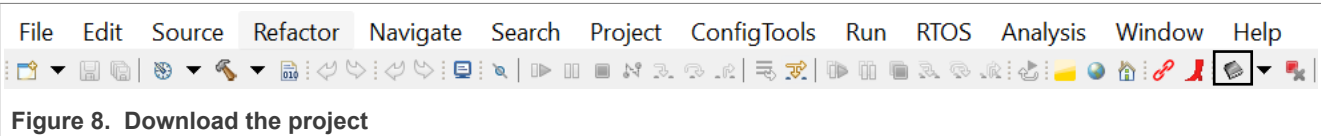

Figure 8. Download the project
- 2. To program the executable to the board, select the **GUI Flash Tool** from the toolbar as shown in Figure 8.